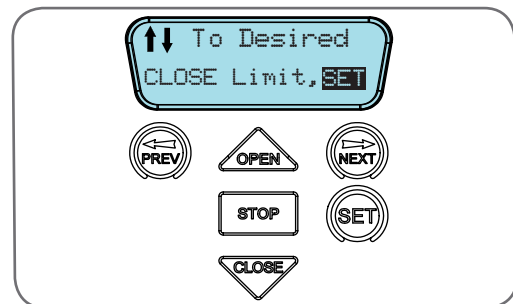

fig 15
- After a short delay the MAIN SCREEN (**Fig. 15**) will be displayed. If this is the first time the GDO-10v2L2 is being used, the MAIN SCREEN should enter into limit set mode and the blue close LED will be flashing. If the display shows that an input is active, then rectify the situation before continuing with the procedure for setting the travel limits. Press and hold the CLOSE button - the door should start closing.